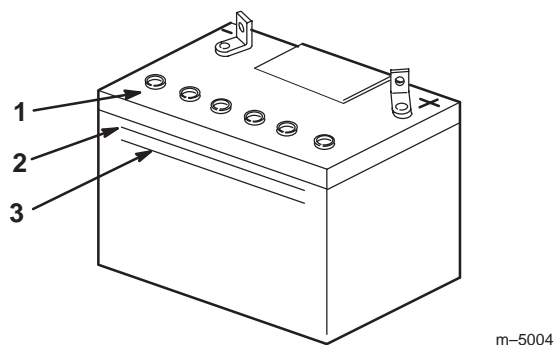

Figure 57
2. Look at the side of the battery. The electrolyte must be up to the **upper** line (Fig. 57). Do not allow the electrolyte to get below the **lower** line (Fig. 57).
3. Remove the vent caps from the battery (Fig. 57).
4. Slowly pour distilled water into each battery cell until the level is up to the **upper** line (Fig. 57) on the battery case.
5. Wait five to ten minutes after filling the battery cells. Add distilled water, if necessary, until the electrolyte level is up to the **upper** line (Fig. 57) on the battery case.